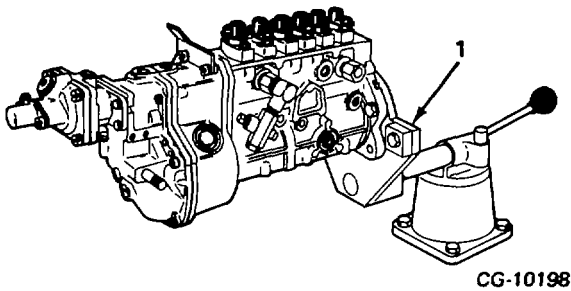

Figure 1. Injection Pump Mounted in Holding Fixture
4. Clamp holding fixture KDEP 2919/A (Figure 1) in vise. Remove two pump housing to adapter bolts. Secure injection pump assembly to holding fixture.